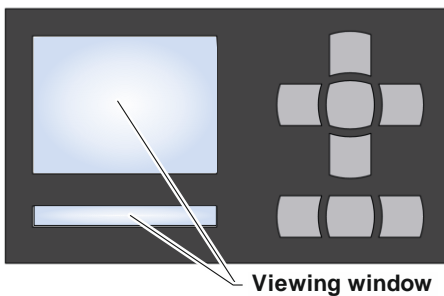

Fig. 1: Keyboard to USR
- Remove the protective films of the viewing windows (→ Fig. 1) carefully at the new keyboard.